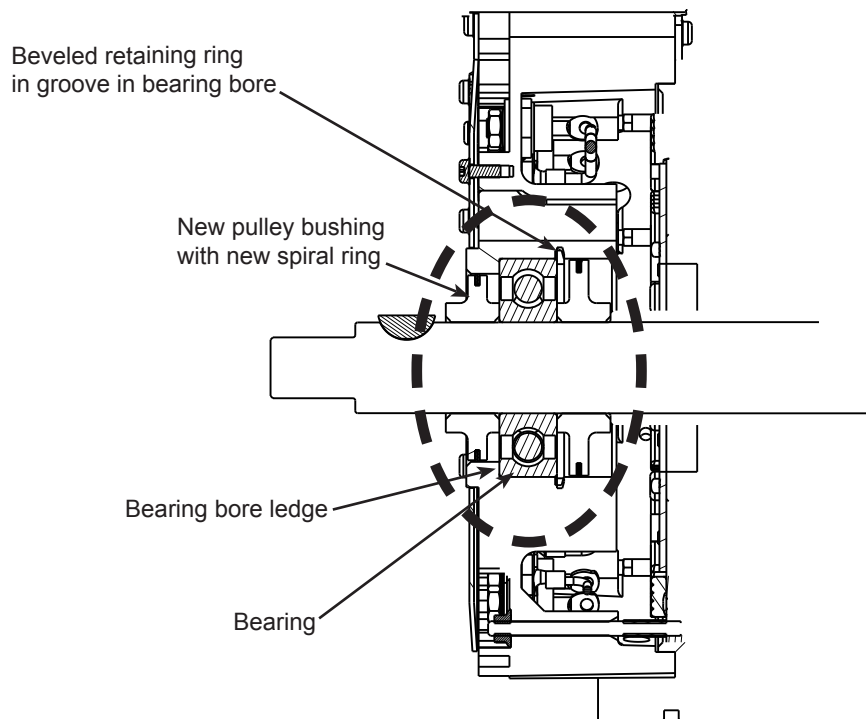

Figure 1: Bearing Replacement Details
1. Use CEN A10–108 bearing tool (or equivalent) placed on bearing outer race and press bearing into the DE bearing bore from the inside until it bottoms out on the ledge. See Figure 1.
2. Install beveled retaining ring in groove. See Figure 1.
3. Install ring carrier in bearing bore with short hub on carrier facing bearing. See Figure 1.